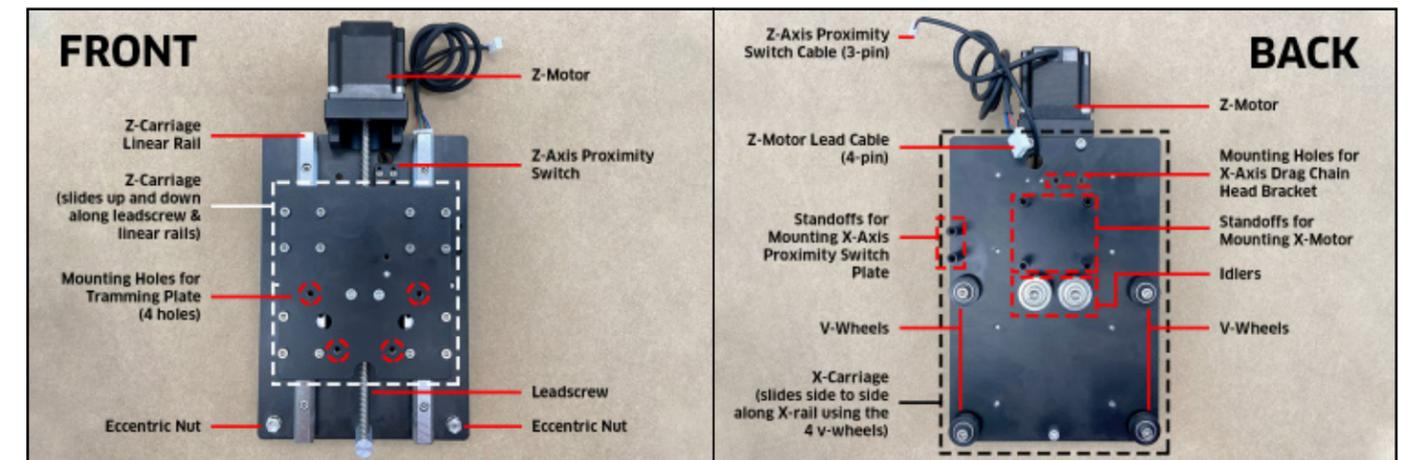
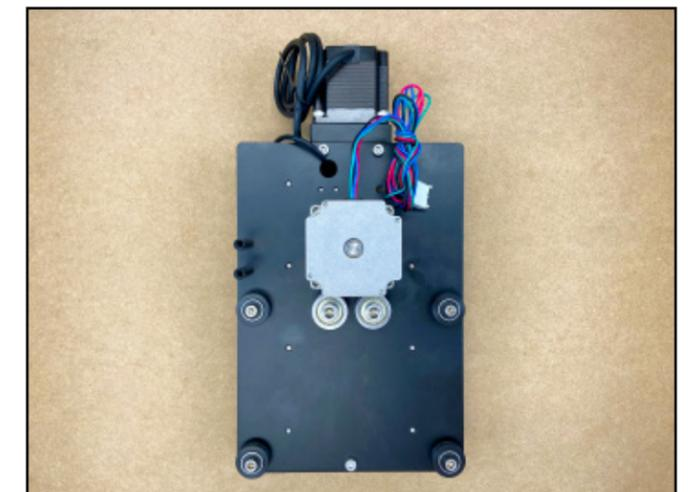

Figure 3-7
Figure 3-8
1. Familiarize yourself with the features and layout of the Z-Plus. See **Figure 3-7**.
2. Place the Z-Plus face down, with the six (6) 30mm standoffs pointing up.
3. Set the X-motor onto the four (4) evenly-spaced standoffs in the center of the Z-Plus, with the X-motor lead cables extending up toward the Z-motor. See **Figure 3-8**.
4. Use the 4mm hex key and four (4) M5×10mm socket head cap screws to secure the X-motor to the Z-Plus.